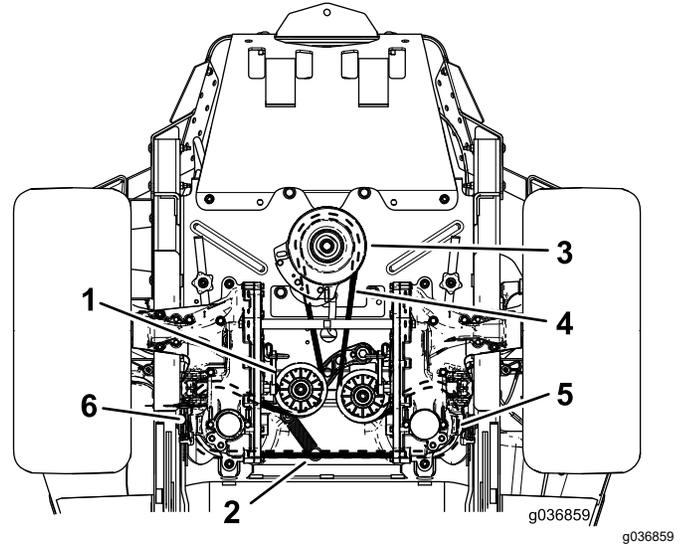

Figure 78
4. Raise the machine and support it with jack stands (Figure 78).
6. Remove the idler spring from the post (Figure 78).
8. Install the new belt around the engine pulley and the 2 hydraulic-pump pulleys (Figure 78).